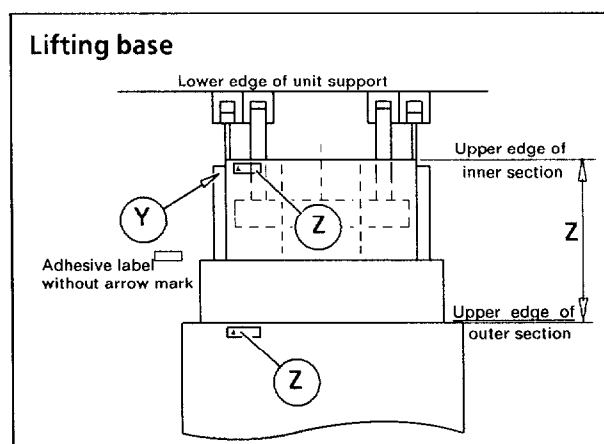

Fig. 3
- Raise the unit in the Calibration mode carefully until the position indicated on the label (2) is reached.
- Using a steel tape measure, determine the distance between the upper edge of the outer lifting base segment and the upper edge of the inner lifting base segment at the position marked with a triangle (Fig. 3).
- Lower the unit in the Calibration mode carefully until the minimum position indicated on the label (2) is reached.